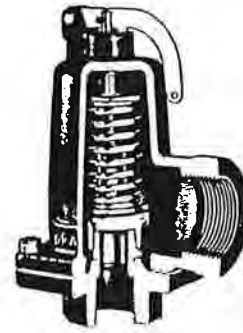

Fig. 8-11. Relief valve.
8.32 Figure 8-11 shows how such valves are constructed. Input is from the bottom of the valve. Pressure works against the disc, normally kept seated by the spring above it. The valve opens because the pressure has become great enough to overcome the resistance of the spring.